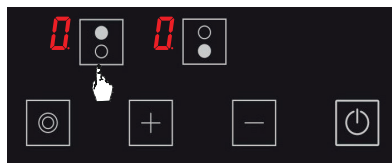

Figure 15
2. Press the upper hob selection key (top left) again. (See Fig. 15)